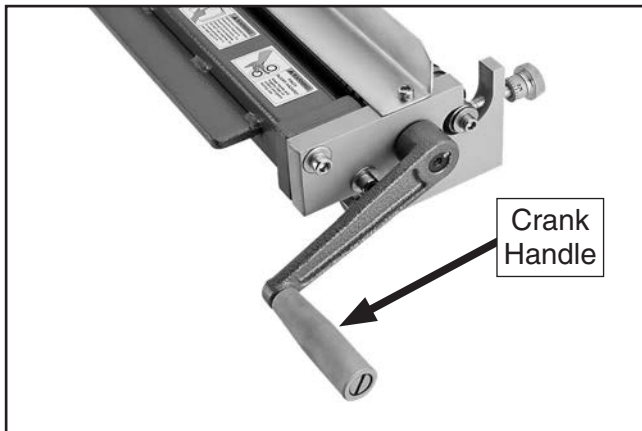

Figure 3. Crank handle attached.
1. Thread the handle into the crank arm and tighten with a screwdriver, as shown in **Figure 3**.